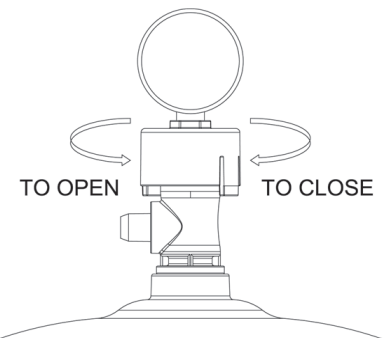

Figure 6
3. Ensure the manual air relief valve is in the OPEN position (refer to Fig. 6).